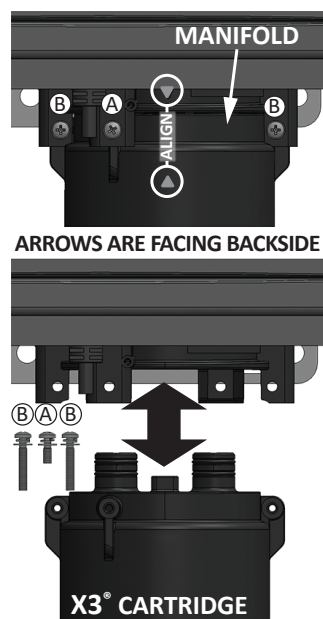

Figure 20 - X3® Cartridge Installation
- 2 Locate the three (3) screws provided in the hardware bag on the top of the water heater carton. Set the one **A** screw (M4-12mm) and two **B** screws (M4-25mm) aside in a safe place (Figure 20).
NOTICE: The X3® cartridge is keyed to only install in one direction. Align the **▲** on the X3® cartridge with the **▼** on the manifold (arrows will be back facing for TI & TO series heaters). When inserting the X3® cartridge, push up until the screw holes align. Some resistance is normal. See Figure 20 for reference.
- 4 Remove the two **B** screws and the one **A** screw securing the X3® Cartridge to the manifold located on the underside of the water heater cabinet. Set the screws aside in a safe place for re-installation. Note the order of the screws when removing them. Reference Figure 20.